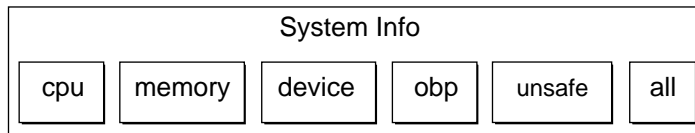

FIGURE 3-6 System Information Buttons
- Click on any of the System Info buttons during the DR operation (FIGURE 3-6).